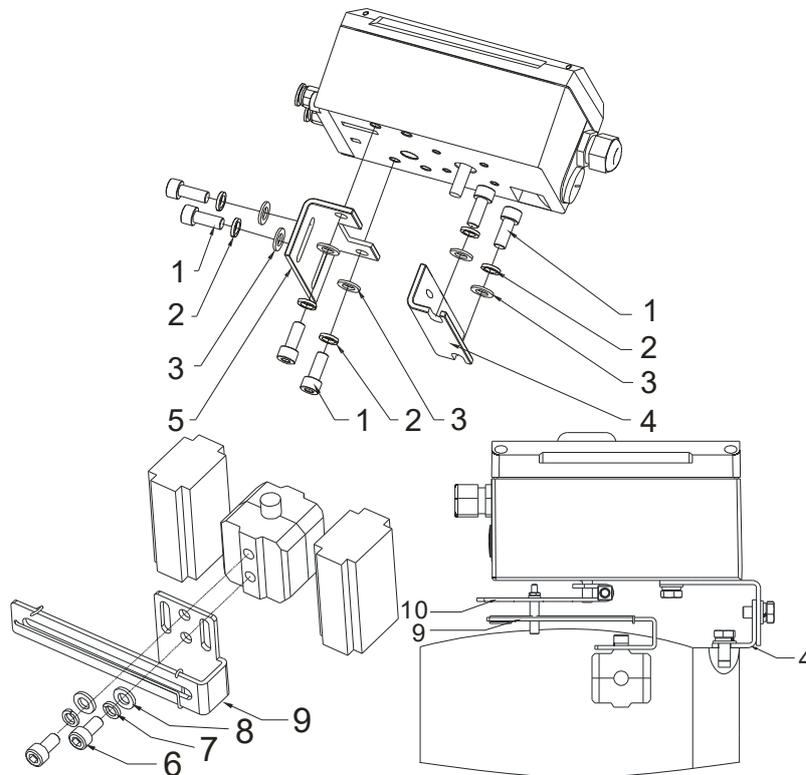

Fig.4-5 Installation on a linear actuator
The positioner mounting on the front of the actuator, with the adjustable connection by the feedback lever and feedback bracket(Fig. 4-5).
Fix the positioner bracket (Fig. 4-5/⑤) to the positioner with inner-hexagon head screws(Fig. 4-5/①),
spring washers (Fig. 4-5/②) and washers (Fig. 4-5/③).
Fix the actuator bracket (Fig. 4-5/④) to the actuator with inner-hexagon head screws(Fig. 4-5/①), spring washers (Fig. 4-5/②) and washers (Fig. 4-5/③).
Fix the feedback bracket (Fig. 4-5/⑨) to the actuator with inner-hexagon head screws(Fig. 4-5/⑥), spring washers (Fig. 4-5/⑦) and washers (Fig. 4-5/⑧).
Fix the feedback lever (Fig. 4-5/⑩) to the feedback shaft of positioner through fasten screw.
Fix the positioner to the actuator with inner-hexagon head screws(Fig. 4-5/①), spring washers (Fig. 4-5/②) and washers (Fig. 4-5/③).
After installation, please fine-tune the position of the actuator bracket (Fig. 4-5/④) and feedback bracket(Fig. 4-5/⑨) to make sure that the feedback lever(Fig. 4-5/⑩) is horizontal when the valve is 50% opened. See the solid line in Fig. 4-5.